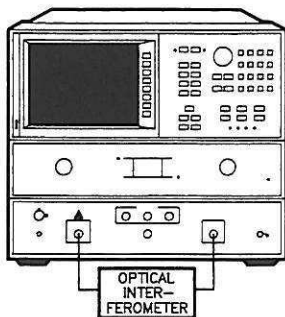

Figure 5. Optical Path Length Measurement Configuration
5. Insert the interferometer between the optical cables as shown in Figure 5. Be sure all the connections are clean.